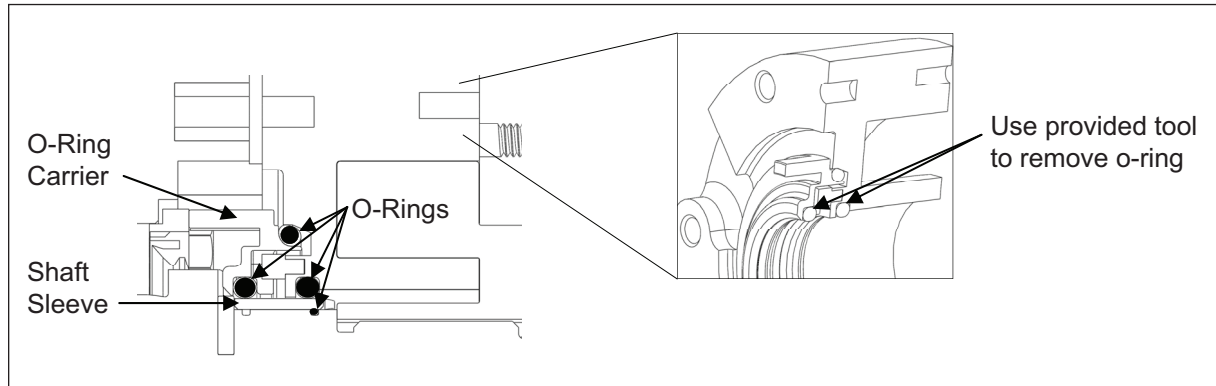

*Figure 30. Single O-Ring Seal Assembly*
**Assembly:** Clean both shaft ends and the body before assembling. Apply a light film of lubricant to NEW o-rings and insert them on the shafts (slot closest to splines) and into the body. Slide the shaft sleeves onto the shafts until it seats on the shaft shoulder. Shaft sleeves will be slotted and it is vital that the drive pin on the shaft fits between the sleeve slot (*Figure 30*). See Pump Assembly on *page 37* to continue.
**Assembly:** Clean both shaft ends and the body before assembling. Apply a light film of lubricant to NEW o-rings and insert them on the shafts (slot closest to splines), in the carriers and into the body. Slide the shaft sleeves onto the shafts until it seats on the shaft shoulder (*Figure 30*). Shaft sleeves will either have prongs or be slotted and it is vital that the drive pin on the shaft fits between the sleeve prongs/slot. Install the o-ring carriers into the back of the body making sure that the pin in the body and the slot on the carrier are lined up (*Figure 32*). See Pump Assembly on *page 37* to continue.